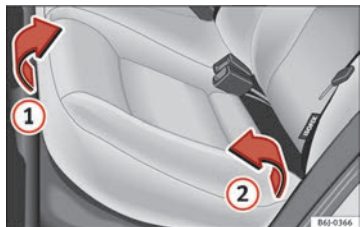
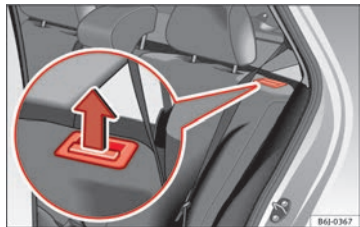

Fig. 79 Folding up the rear seat cushion.
Fig. 80 Button for unlocking the rear backrest.
- Pull the front edge of the seat cushion ⇒ Fig. 79 ① upwards in the direction of the arrow.
- Lift the cushion ② forwards in the direction of the arrow.
- Pull the release button ⇒ Fig. 80 in the direction of the arrow and fold the backrest forwards.